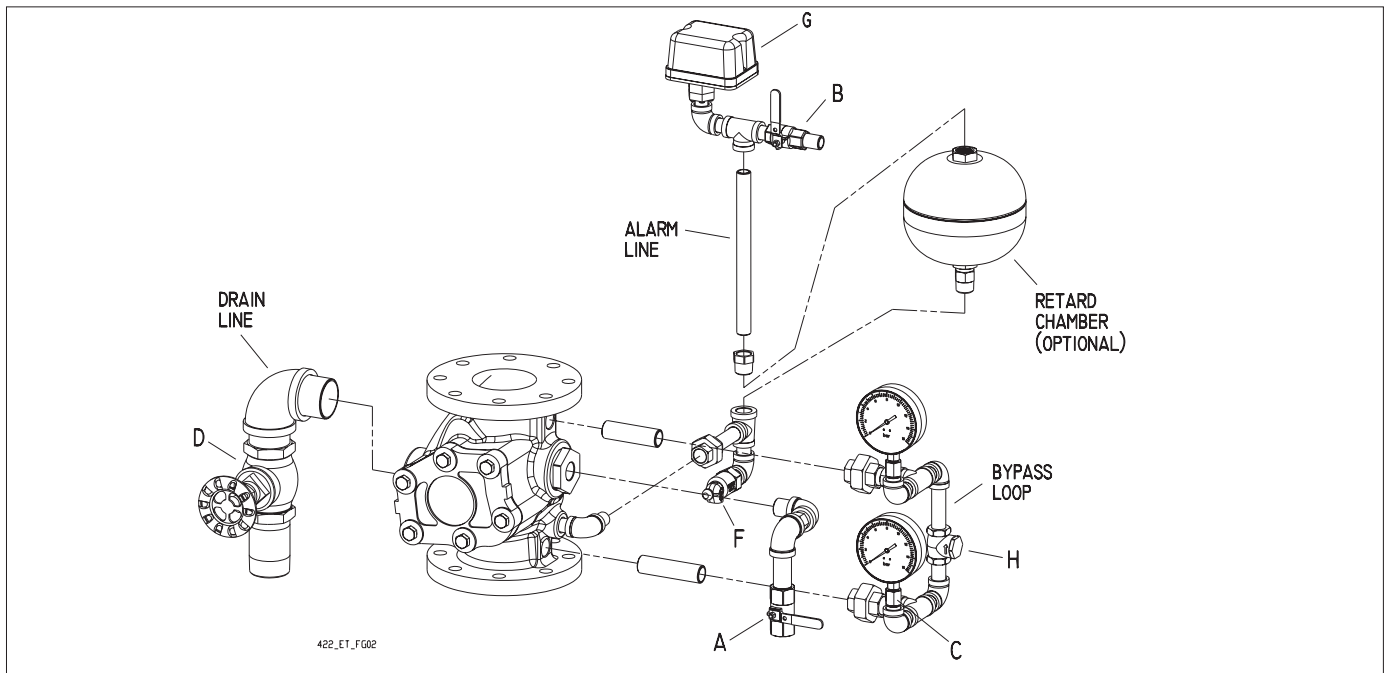

Figure 2A
- **Variable Pressure, Optional Trims (Fig. 2A & 2B)**
Legend for Figure 2A & 2B